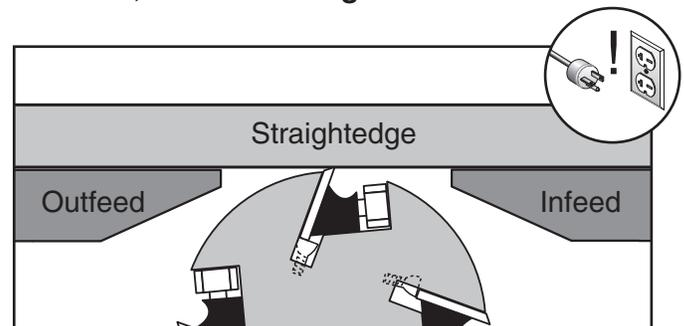

Figure 81. Infeed table even with outfeed table.
4. Adjust infeed table until it is level with outfeed table, as shown in **Figure 81**.